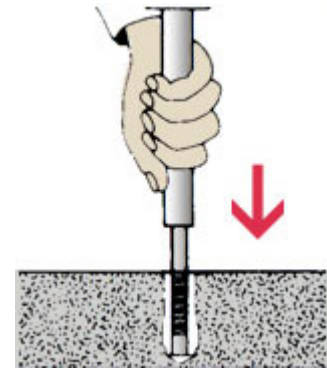

Figure 8
9. Now, take the setting tool and insert it into the anchor. Strike the setting tool with the hammer until the lip of the anchor touches the lip of the setting tool. This will ensure the anchor is properly set. (Figure 8)